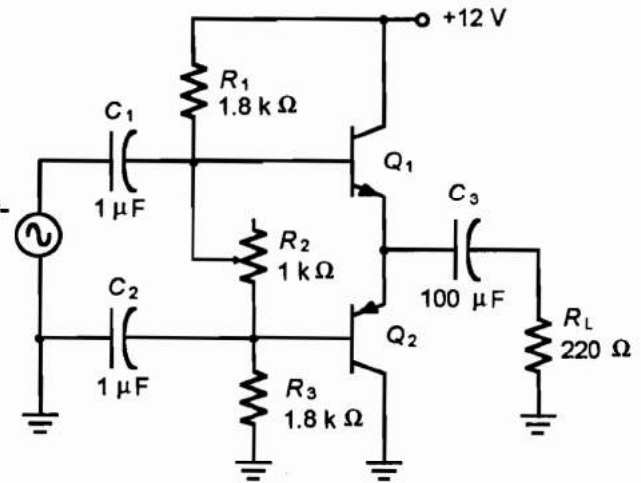

Figure 23.1
1. Construct the circuit in Figure 23.1.